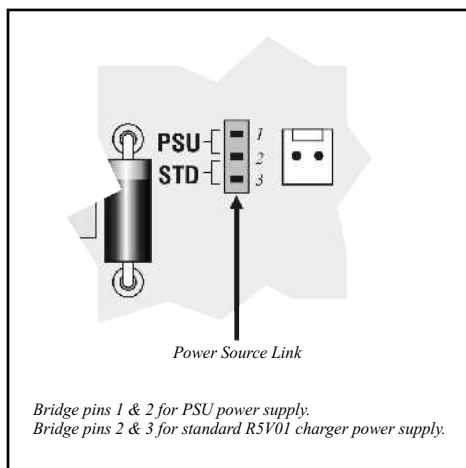

Figure 24 CP75 Power Source Link
3. Check that the **power source link is in the STD position** when using a standard CP84ER5V01 charger, or **PSU position** for PSUx power supply driven installations. See Fig. 24